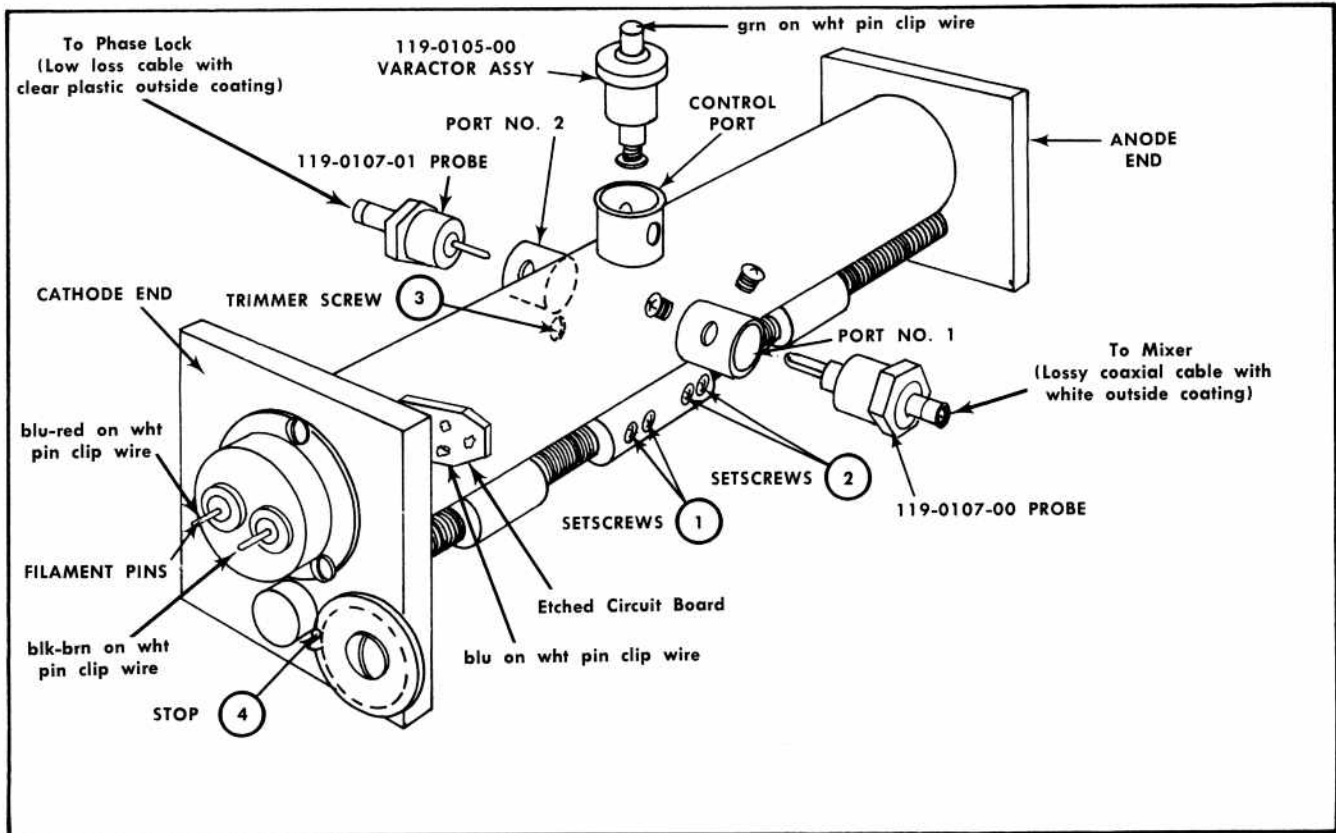

Fig. 4-3. Assembly alignment diagram.
1. Disconnect the four push-on clip wires and the two push-on coaxial cables, see Fig. 4-3.
Refer to Fig. 4-3 for the location of the sub-assemblies and ports. The oscillator assembly must be removed for calibration. The probe assemblies can be oriented within the magnetic field of the oscillator chamber by loosening set screws and positioning the probe in or out of the chamber or rotating the probe within the field.
This procedure should be used only after replacing the oscillator tube. Refer to Fig. 4-3 for the location of sub assemblies and ports. The oscillator assembly must be removed for calibration.
a. Install probe assembly (Part No. 119-0107-01 into the No. 2 port (Fig. 4-3). Position the probe assembly approximately $\frac{1}{16}$ inch out from full penetration with the notch or keyway (DC return of the probe) towards the plate end of the oscillator assembly, and secure by tightening one of the two set screws.
b. Install probe assembly (Part No. 119-0107-00) into the No. 1 port (Fig. 4-3). Position the probe assembly approximately $\frac{1}{16}$ inch out from full penetration with the notch or keyway towards the plate end of the oscillator assembly, and secure by tightening one of the two set screws.
i. Loosen the set screws (1) in Fig. 4-3, and position the plate choke for a frequency of 4.2 GHz.
j. Loosen the set screws (2) in Fig. 4-3, and position the cathode choke for maximum power output. Decrease probe coupling if power output exceeds 100 mW.
c. Install pinion gear so bent tooth of the spur gear makes contact with the set screw (4) Fig. 4-3, then tighten the set screw in the pinion gear.
b. Tune the dial to indicate 1.5 GHz. Adjust the trimmer screw (3) in Fig. 4-3, for an oscillator frequency of 1.7 GHz.